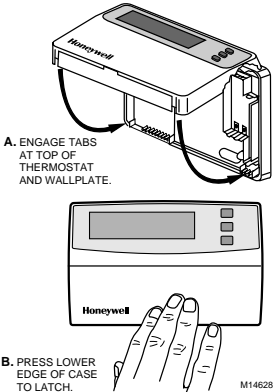

Fig. 3. Mounting thermostat on wallplate.
- 1. Engage tabs at the top of the thermostat and wallplate. See Fig. 3.